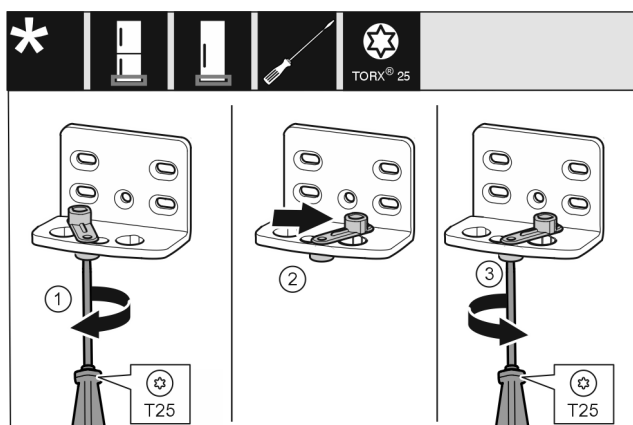

Fig. 17
- Use screwdriver to loosen the screw Fig. 17 (1).
- Lift the door closing aid Fig. 17 (2) and turn 90° clockwise in the hole.
- Tighten screw Fig. 17 (3) with screwdriver.